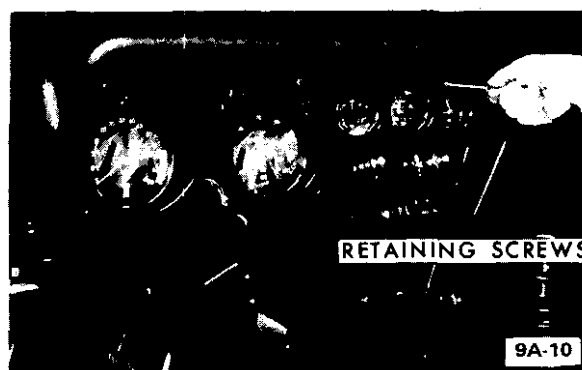

Figure 9A-10 Removing Instrument Cluster retaining Screws
10. Grasp instrument cluster and pull straight back, being careful of wires, etc. See Figure 9A-11.